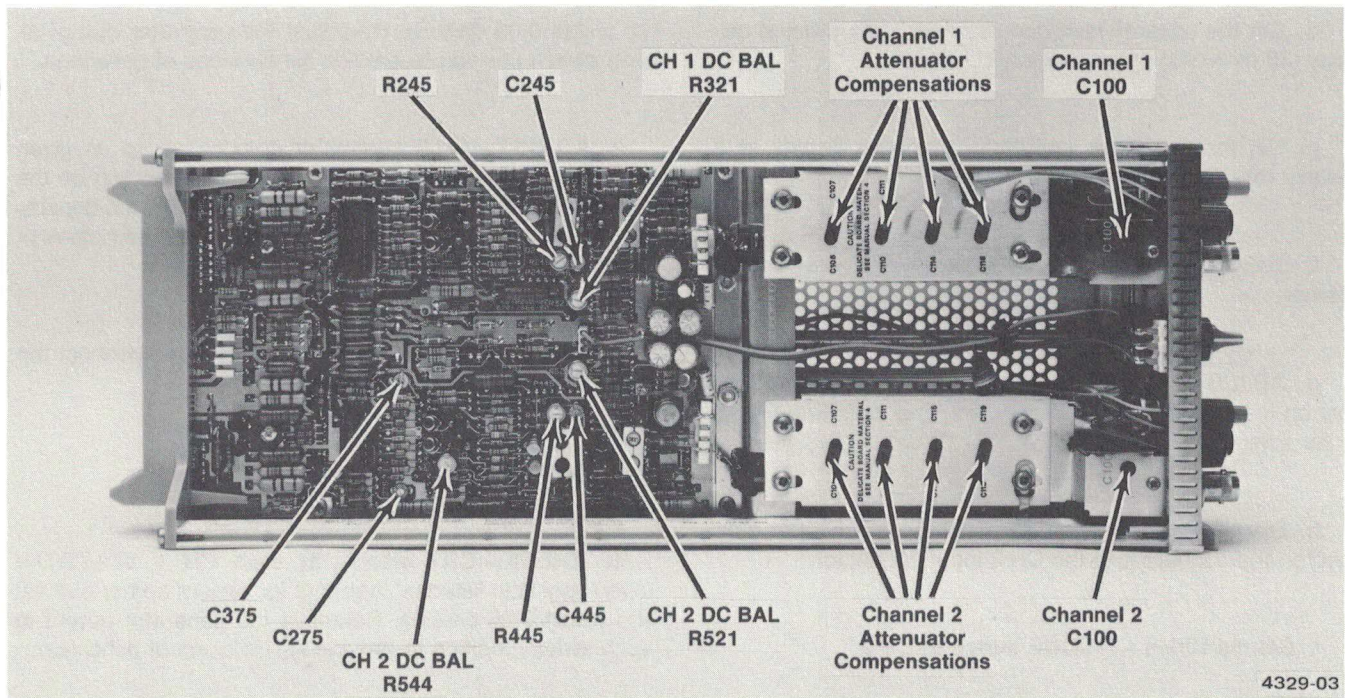

Fig. 4-1. Locations of adjustments used in this procedure.
The locations of the 7A18A adjustments are shown in Fig. 4-1.
d. ADJUST—Channel 1 DC Balance, R321 for minimum trace shift as the CH 1 VARIABLE control is rotated from fully counterclockwise to fully clockwise. See Fig. 4-1 for adjustment location.
h. ADJUST—DC BAL, R521, for no trace shift while switching CH 2 POLARITY switch from +UP to INVERT. See Fig. 4-1 for adjustment location.
i. ADJUST—CH 2 VARIABLE DC BAL, R544, for minimum trace shift as the CH 2 VARIABLE control is rotated from fully counterclockwise to fully clockwise. See Fig. 4-1 for adjustment location.
g. ADJUST—Channel 1 C100 for optimum square corner on the displayed waveform (use tuning tool). See Fig. 4-1 for adjustment location.
k. ADJUST—Channel 1 C100 for optimum square corner on the displayed waveform. See Fig. 4-1 for adjustment locations.
e. ADJUST—CH 2 attenuator compensations as given in Table 4-3 for optimum square corner and flat top on the displayed waveform (use tuning tool). Re-adjust the generator output at each switch position to provide six divisions of deflection. See Fig. 4-1 for adjustment location.
i. ADJUST—CH 1 attenuator compensations as given in Table 4-3 for optimum square corner and flat top on the displayed waveform. Re-adjust the generator output at each switch position to provide six divisions of deflection. See Fig. 4-1 for adjustment location.
f. ADJUST—C245, R245, and C275, for optimum square-wave response with minimum aberrations. Use the low-capacitance screwdriver to adjust the variable capacitors. Repeat these adjustments until optimum response is obtained. See Fig. 4-1 for adjustment location.
j. ADJUST—C445, R445, and C375, for optimum square-wave response with minimum aberrations. Use the low-capacitance screwdriver to adjust the variable capacitors. Repeat these adjustments until optimum response is obtained. See Fig. 4-1 for adjustment location.